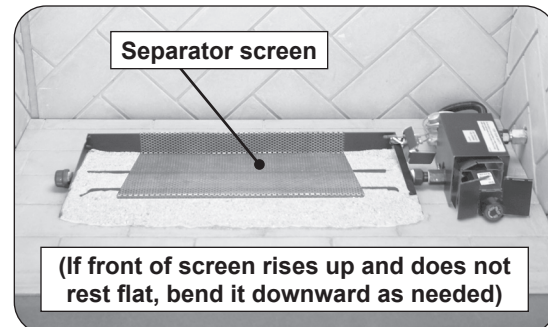
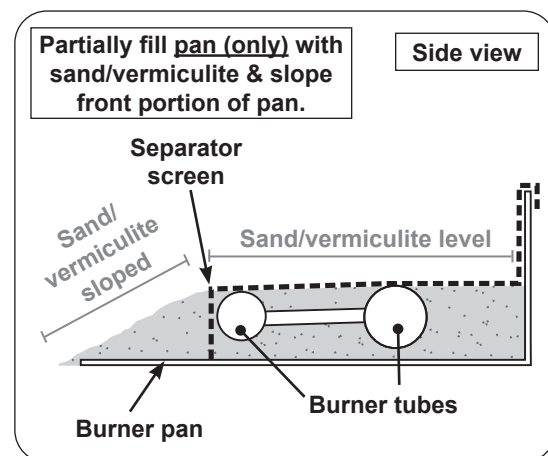

Fig. 19-2 Place screen
Fig. 19-3 Sand/vermiculite & screen detail
- Slope the sand/vermiculite in the front portion of the pan (see Fig. 19-3).
2. Place the separator screen over the sand/vermiculite and pan. The rear of the screen must hook over the rear of the burner pan as shown in Fig. 19-2 and Fig. 19-3.